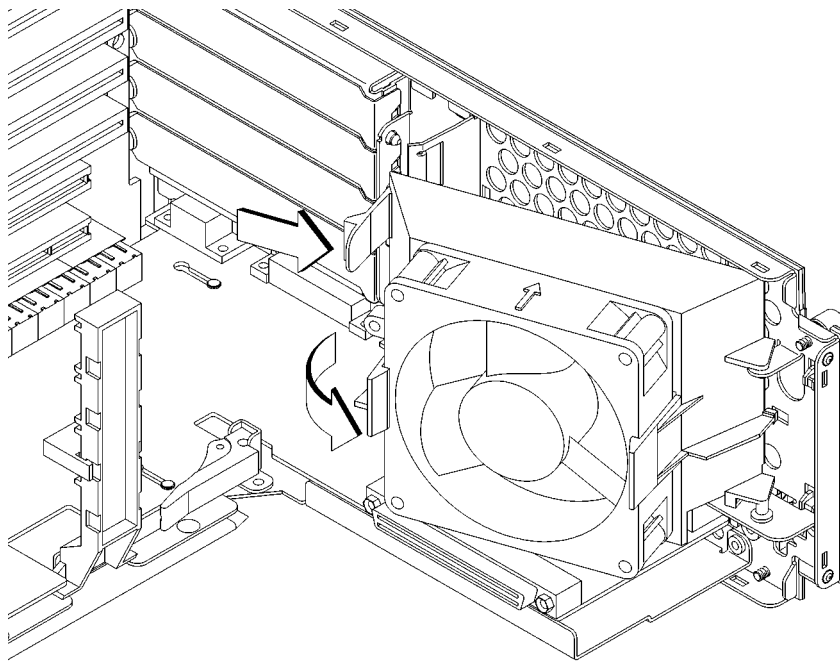

Figure 42 **Rotating the EISA Fan**
- 1 Press the release clip and rotate the EISA fan, as shown in Figure 42.